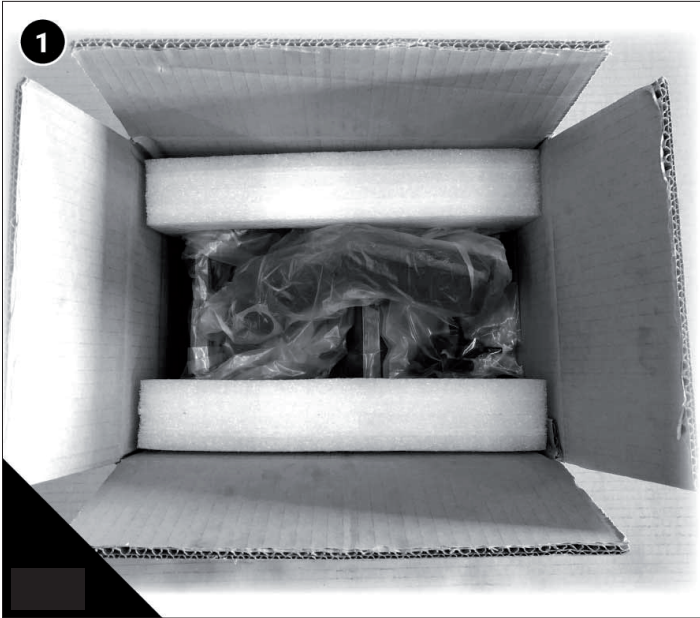
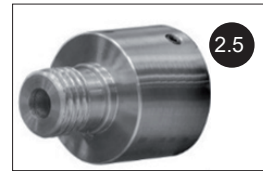

Fig. 17
Fig. 19
**Fig. 17: Unpacking Revo 1216 Expansion Set 254 mm. (1) Delivery contents. (2) Components unpacked. (2.1) Extension Bed 254 mm. (2.2) Toolrest Extension. (2.3) Extension Bed Bolts. (2.4) Lock Handle. (2.5) Outboard Adapter.**
**Fig. 17 - Fig. 19: Unpacking Revo 1216 Expansion Set 254 mm. (1) Delivery contents. (2) Components unpacked. (2.1) Extension Bed 254 mm. (2.2) Toolrest Extension. (2.3) Extension Bed Bolts. (2.4) Lock Handle. (2.5) Outboard Adapter.**
5. Identify the correct orientation of the tool rack (Key 3). The lip of the rack should not be visible. In Fig. 17 the shelf is upside down. A properly installed rack should have the largest hole (faceplate storage) on the furthest left and towards the operator.